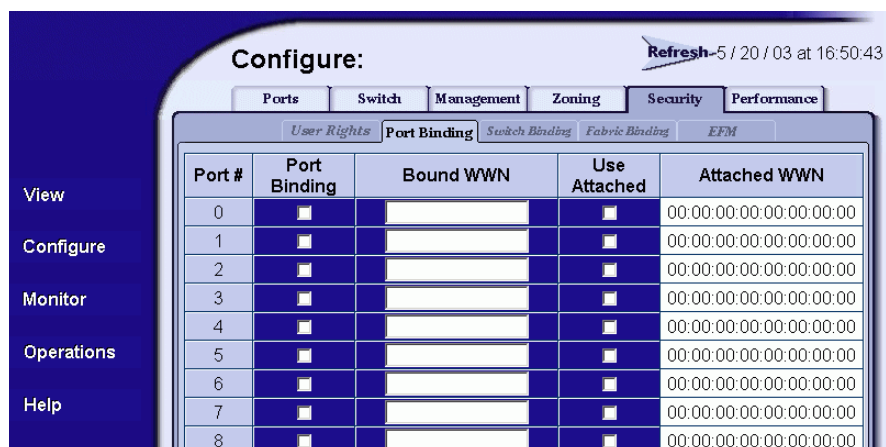

Figure 15: Configuring Port Binding
2. Choose the **Security** tab and the **Port Binding** tab. The **Port Binding** tab view displays (Figure 15).